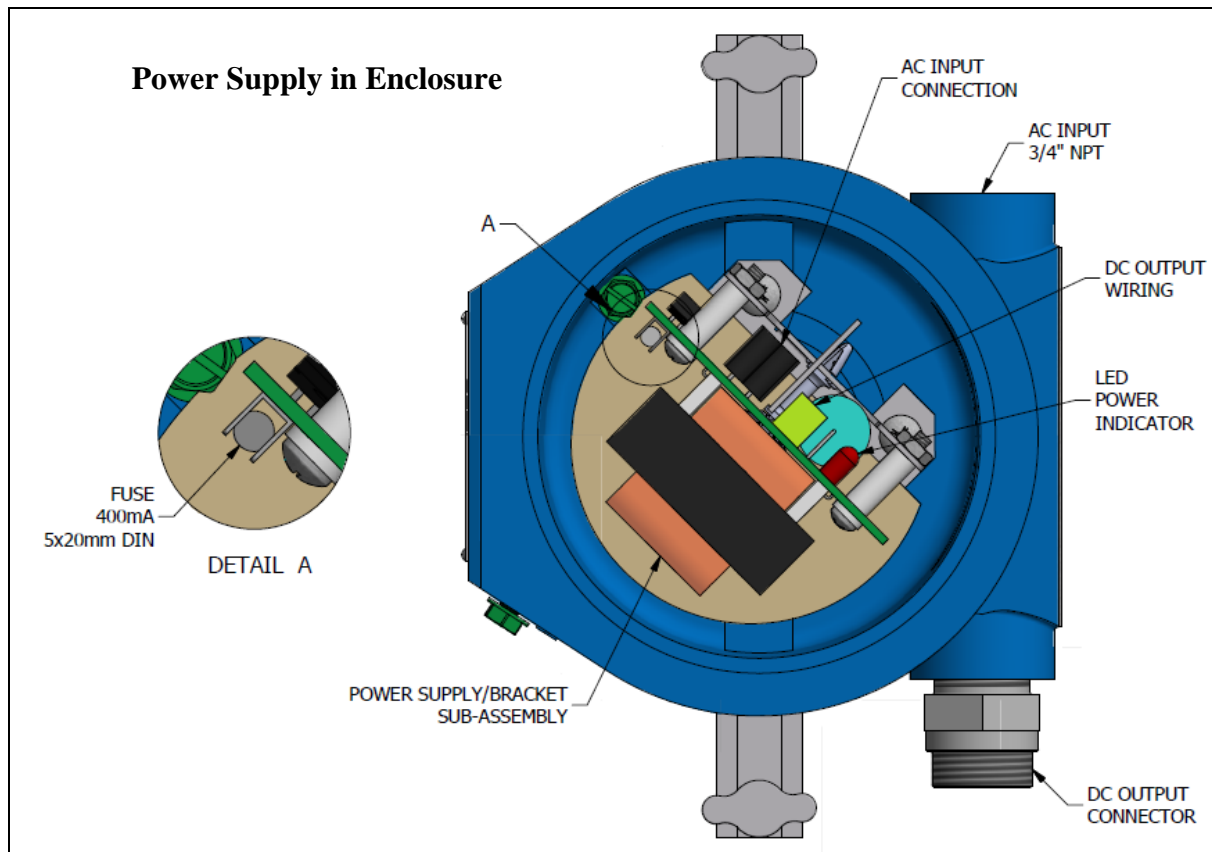

Figure 3
- 1) Open the cover of the power supply housing. Insert the AC Line wires into the housing and connect to the “AC IN” terminal block. Ground screws are located inside and outside the enclosure. **CAUTION:** The DC output is pre-wired. If this connection is removed during installation, reconnect the “AC IN” and “DC OUT” to the proper positions. Failure to do so will result in permanent damage to the power supply. (Ref. Fig.3, pg5)